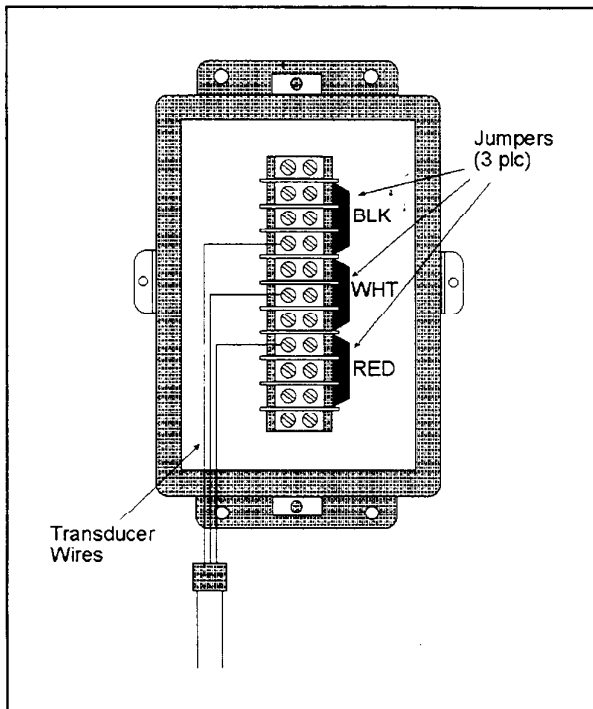

Figure 2-19. Wiring Transducers to a Stainless Steel Junction Box.
3. Route a black wire to one of the three terminals designated for black wires on the terminal strip as shown in Figure 2-19. Secure in place with the terminal screw.